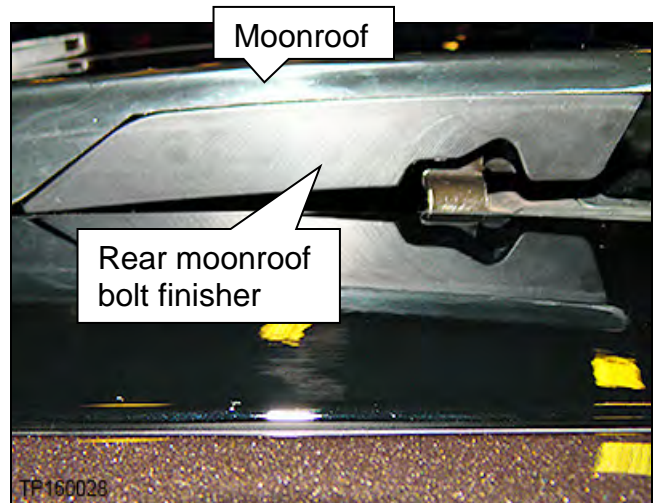

Figure 51
7. Remove the left rear and/or right rear moonroof bolt finishers (Figure 51).